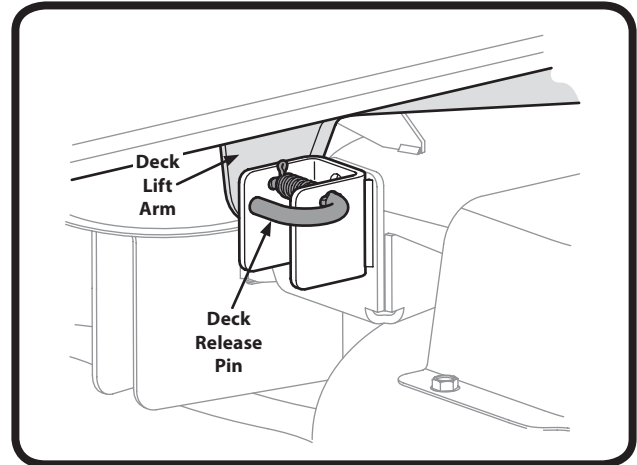

Figure 7.3
8. Locate the LH and RH deck release pins on each side of the deck. Pull the release pins outward and release the deck from the LH and RH deck lift arms. See Figure 7.3.